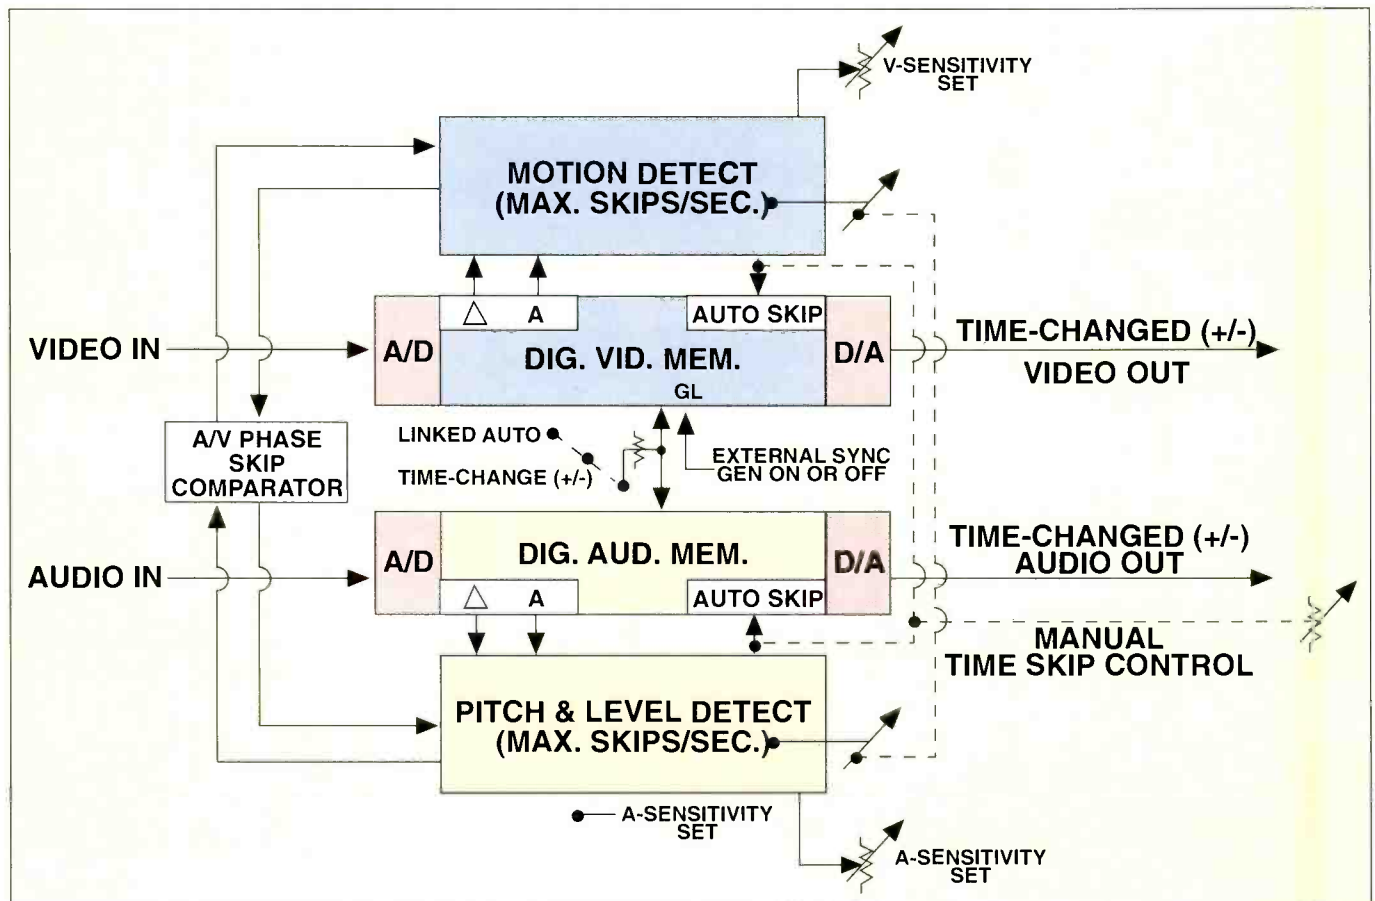

Figure 1. Basic block diagram of the Time Machine. Controls allow pitch/motion sensitivity adjustments as well as manual control of time shifting.
The Acrodyne Au60D takes the different approach. With a tetrode-like tube, the physical limit leading to power-handling capability of the tetrode can actually be doubled without changing any of the tube voltages except the filament. Figure 1 shows the new approach in the form of a comparison between the tetrode and its advanced-concept, double-power tetrode (or *Diacrode*, as it is called).
Figure 1. Cutaways of the tetrode and Diacrode comparisons are shown above. The Diacrode is not actually twice as high as the tetrode, but it appears that way electrically because of the Diacrode's upper reflective cavity. Note that RF current (I) peaks above and below the Diacrode's center, while on the tetrode it peaks only once at the bottom.